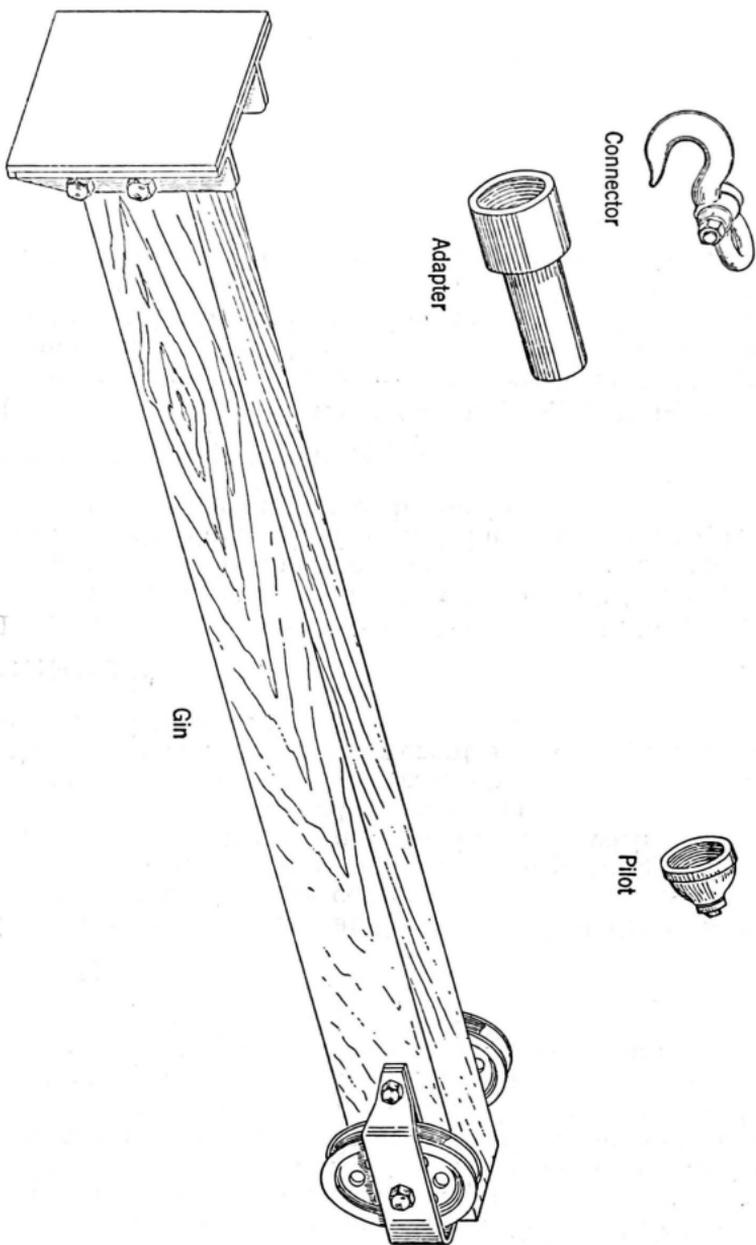

Fig. 1
3.01 The winch line pipe pusher, Fig. 1, consists of a gin, a pilot, an adapter and a connector. The gin consists of a 6" x 6" wooden strut about 14 feet long, one end of which carries two 8-inch wire rope sheaves. The other end carries a fabricated steel bearing plate. The pipe pushing device is employed to facilitate the utilization of the engine power of a winch-equipped construction truck for pushing pipe. The pilot, adapter and connector are described in Paragraphs 4.01, 5.01 and 6.01, respectively.